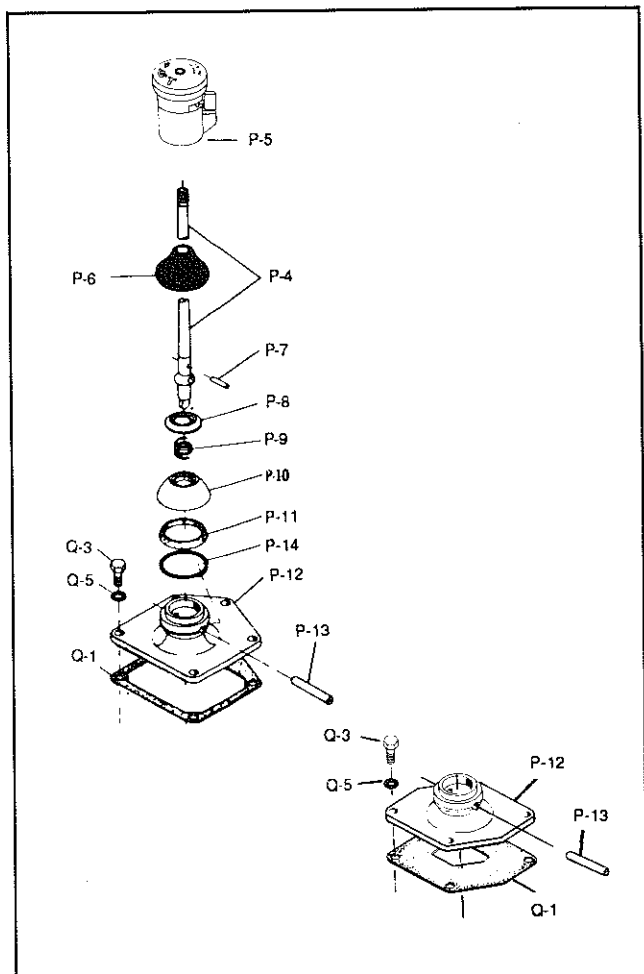

Figure 1
2. Remove the four bolts (Q-3) and washers (Q-5). Separate the tower (P-12) from the case and the gasket (Figure 1).